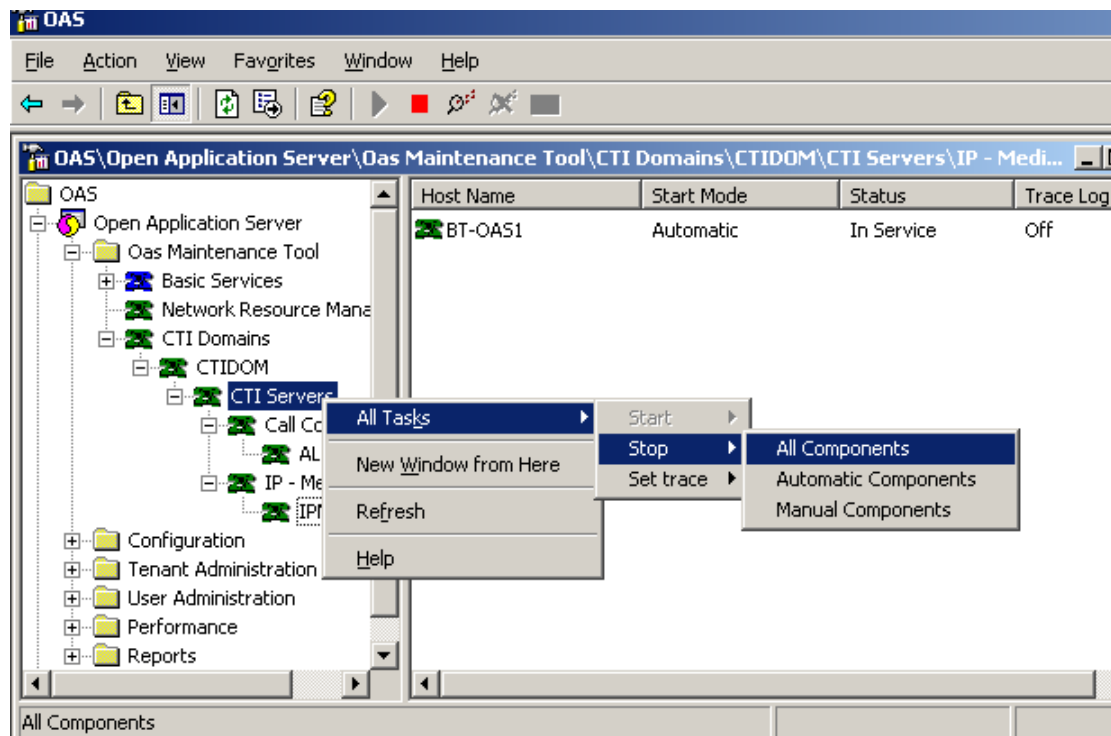

Figure 5: Starting and Stopping multiple components
1. From the configuration tree, right-click a component. See Figure 5.